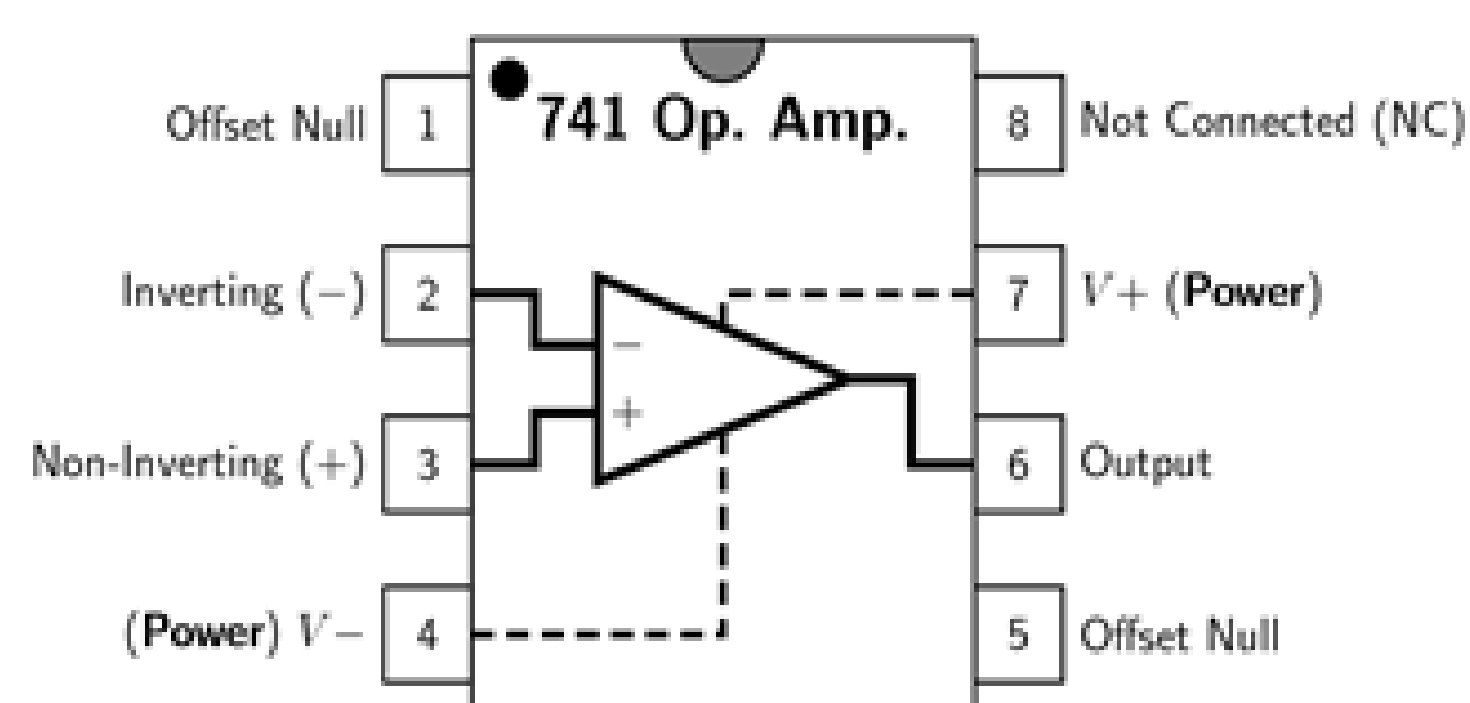

Fig. 2: 555 Timer IC
- The pin configuration of this IC is shown in Fig.2.